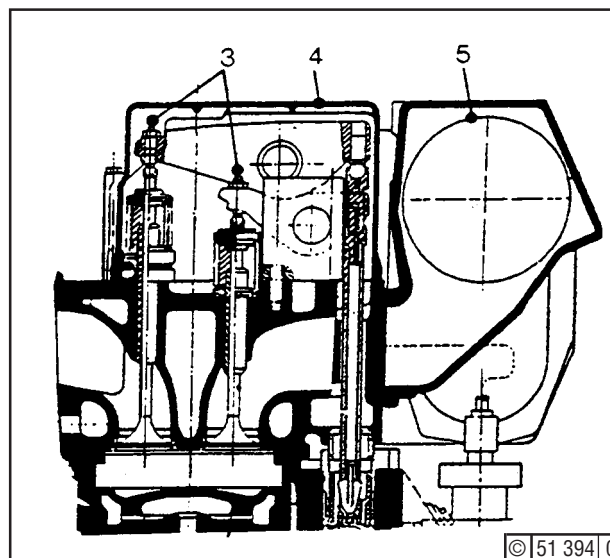
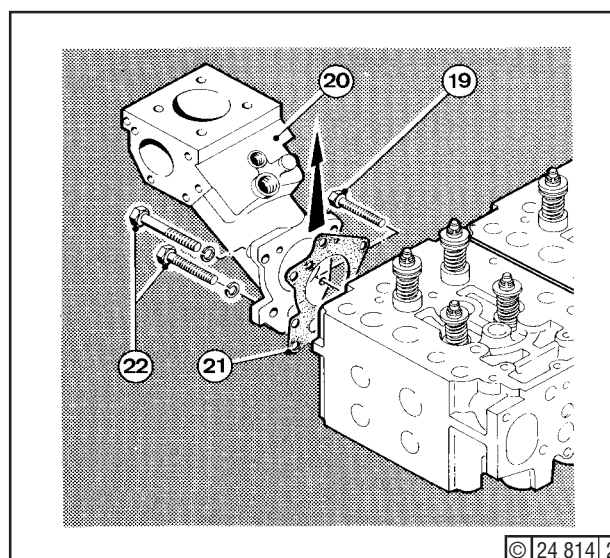

Fig. 1
Fig. 2
Observe safety precautions (Job Card 02.00.01). Drain cooling water. Remove rocker chamber cover (4) - fig 1 - and turn engine so that inlet and exhaust valves are closed. Release valve clearance adjusting screws (3) on rocker arms. Disconnect pilot air pipe at the joint above the starting pipe. Release two hex. bolts securing indicator cock and turn cock. If necessary, remove. Release locks (16) - fig 3 - on sliding piece of the charge air piping (5) and move sliding pieces sideways. Disconnect injection piping and main starting air pipe from cylinder head. Unscrew 4 bolts (22) - fig 2 - on exhaust elbow (20).